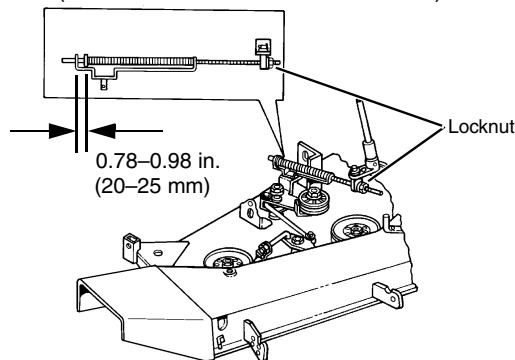

FIG. 24
- Measure distance from bracket to washer on tension rod. (See FIG. 24)